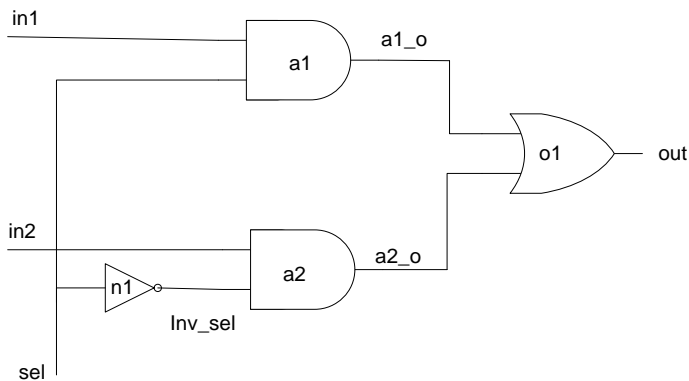

Figure 4
**$Out = in1 \cdot sel + in2 \cdot sel'$**  and the implementation is shown in figure 4